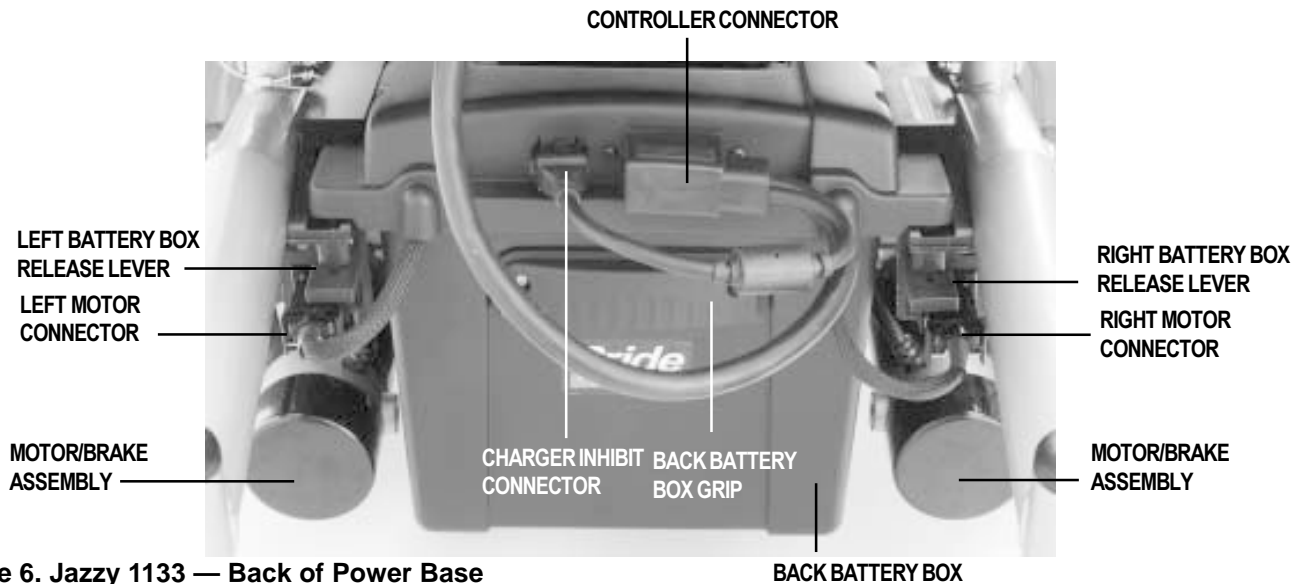

Figure 6. Jazzy 1133 — Back of Power Base
2. Unplug the controller and charger inhibit connectors from the back battery box. See figure 6.
8. Unplug the left and the right motor connectors. See figure 6.
11. With the other hand, hold the back battery box by the grip on the back (see figure 6) and pull it rearwards until you disconnect it from the front battery box.